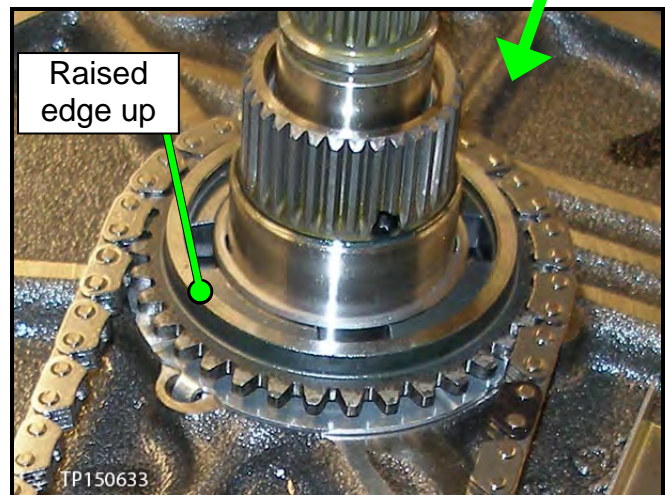

Figure 72
- Make sure the raised edge on the drive sprocket is facing up (see Figure 72).